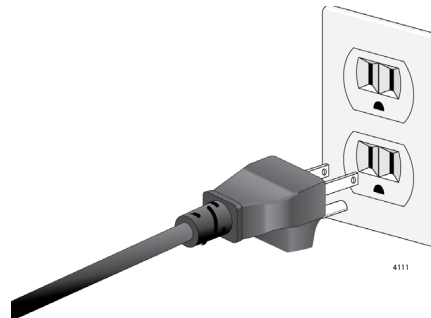

Figure 5. Plug the Power Cord into a Wall Outlet
2. Plug the other end of the power cord into a wall outlet. See Figure 5.